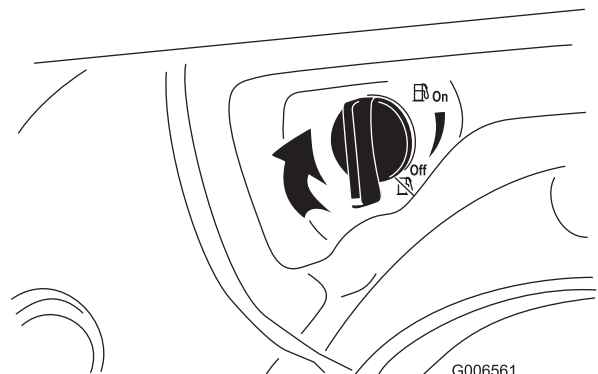

Figure 27
- 4. Close the fuel-shutoff valve by rotating it clockwise (Figure 27).